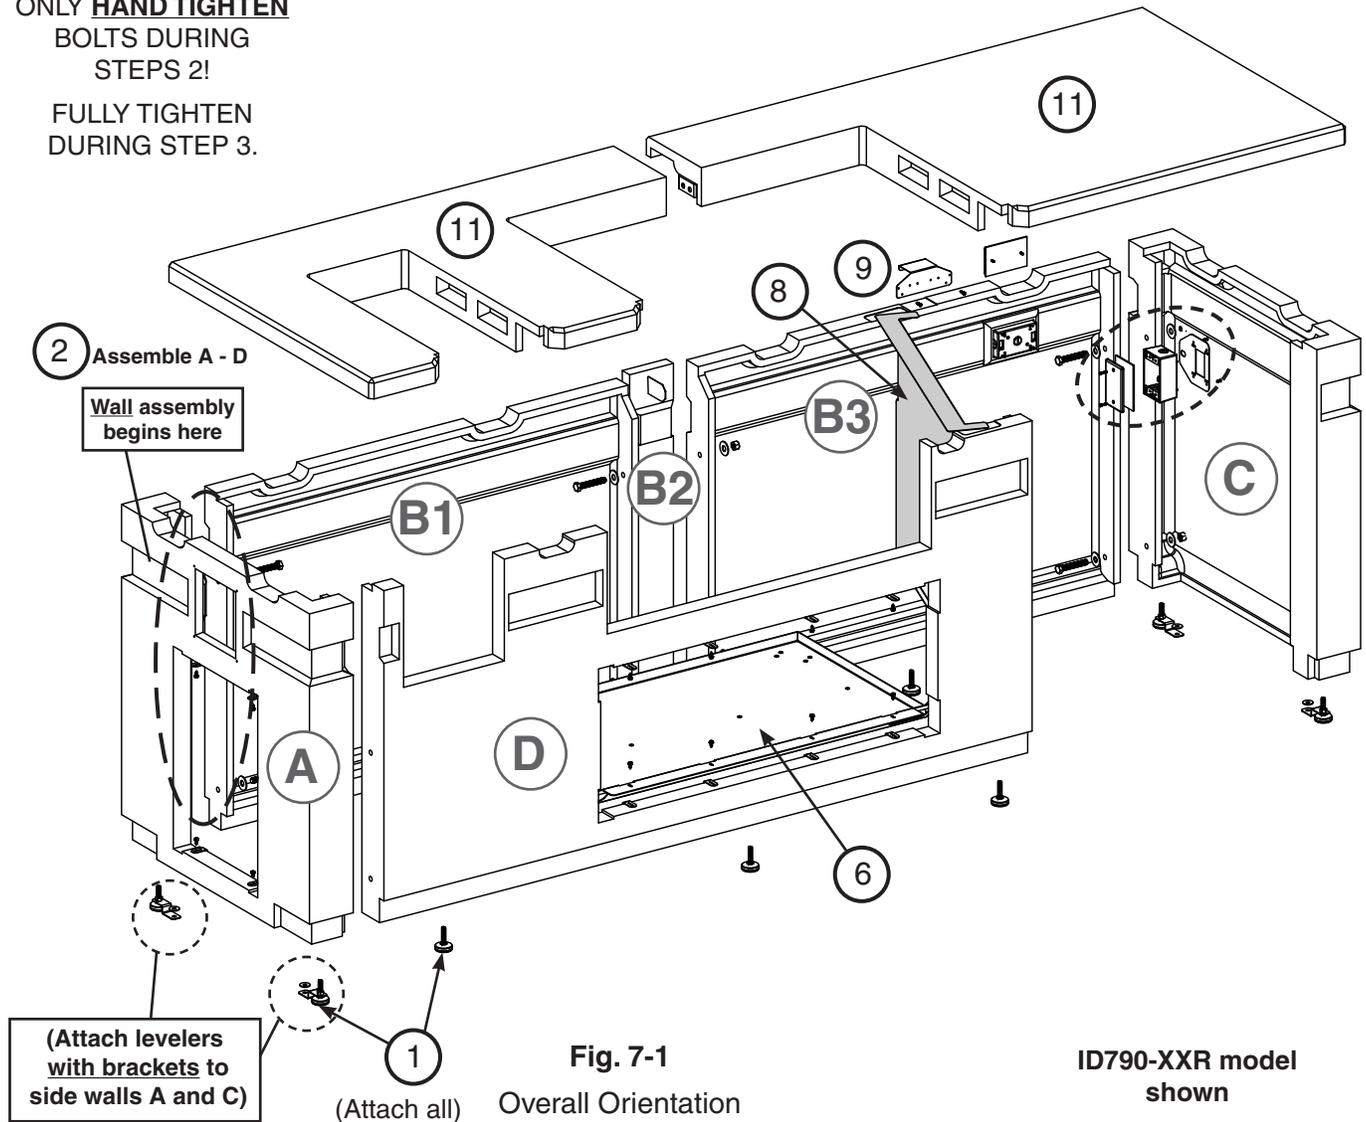

Fig. 7-1
- Fig. 7-1 provides an overall orientation and bolt assembly detail for the island with refrigerator. (ID790 model shown. Assembly may slightly vary depending on island selected.)